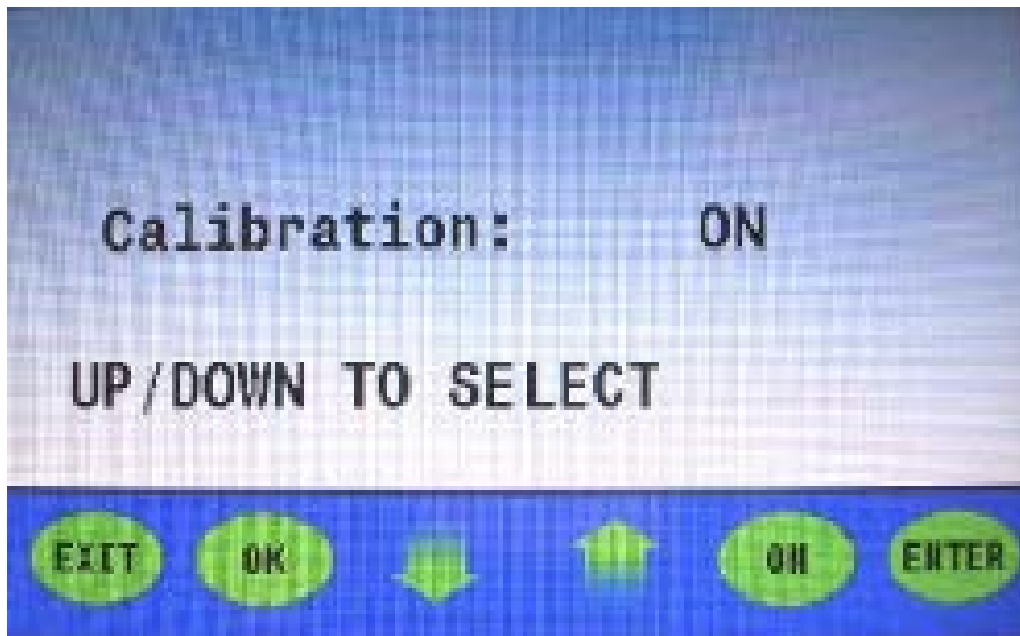

Figure 9
28. Press the **up or down arrow**; change “Table” to “ON” (**figure 9**). Press the **Enter button**.